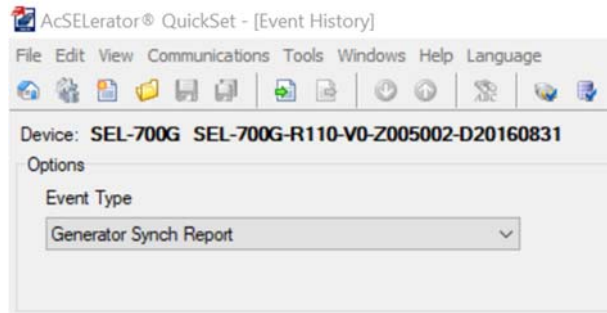

Figure 46: Change Event Type to Generator Synch
31. Click on “Tools”, “Events”, and select “Get Event Files”. After a few seconds, a new screen will open. On the new screen, change Event type to Generator Synch Report as shown in Figure 46. With the file selected in Event History, click “Get Selected Events”. If no events appear, click “Refresh Event History” Save the file in a location you can easily access.